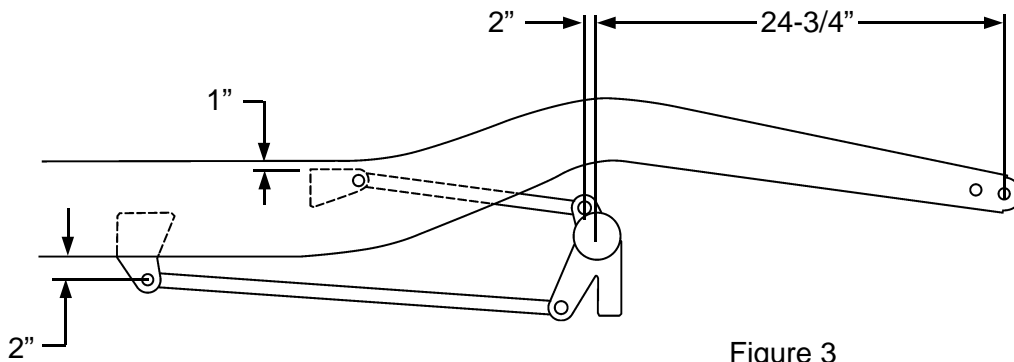
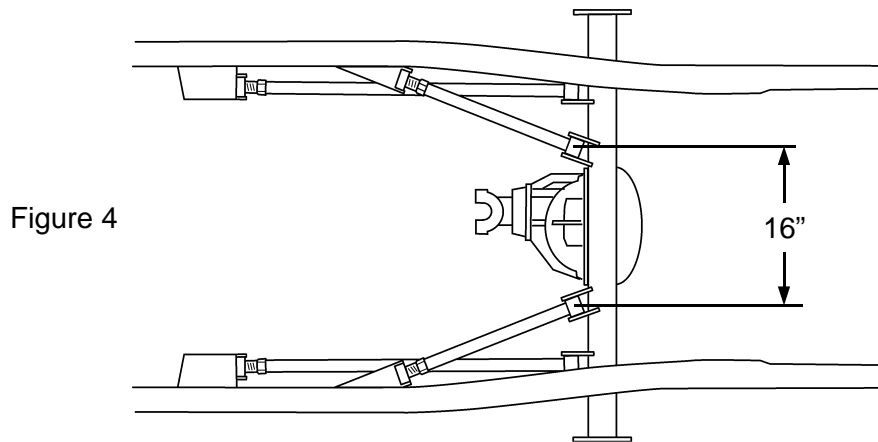

Figure 3
Figure 4
2. Position the axle housing in the frame at 24-3/4" forward measured from the rear frame hole as shown in Figure 3. Position the housing to set the pinion angle to match the angle of the engine which should place the rear coil-over mounts vertical. Assemble and install the Lower Link Bars, with the adjusters to the front, into the Axle Brackets on the housing using the 5/8-18 bolts and lock nuts supplied. Install the Front Lower Brackets and position against the inside of the boxed frame with the bolt center 2" below the frame. See Figure 3. Tack weld in place.
3. Assemble the Upper Link Bars with the adjusters to the front onto the Front Brackets and Axle Tabs. Position the Tabs on the axle housing with the bushing centers approximately 2" forward of the axle center as shown in Figure 3 and 16" apart as shown in Figure 4. The Front Brackets should be 1" below the top of the frame as shown in Figure 3. Tack weld in place. Check for floor pan clearance before final welding. If all is correct, remove the Link Bars and finish weld all brackets. Final welding should be performed by a qualified welder.